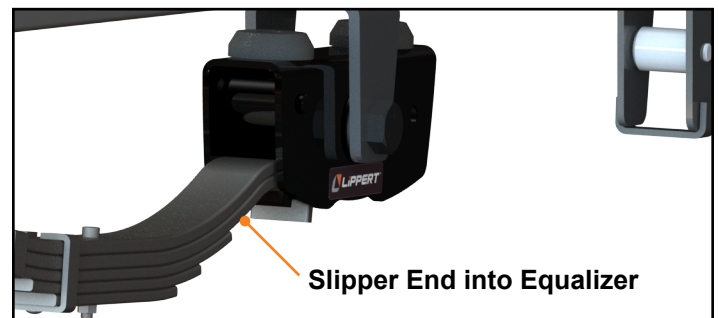
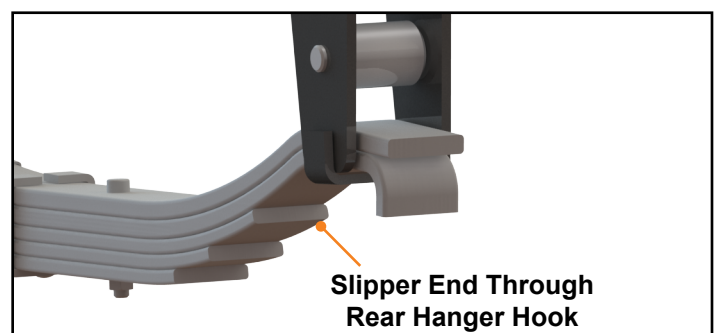

Fig.13
Fig.14
14. Slide the slipper end of the springs onto the front of the equalizers (Fig. 13) and through the hooks on the rear hangers (Fig. 14).